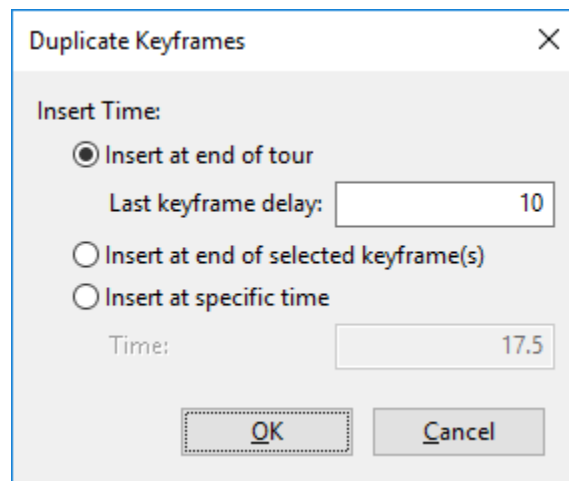

Figure 45. Duplicate Keyframes dialog
2. Right-click the keyframes and select **Duplicate**. This will open the **Duplicate Keyframes** dialog as shown in Figure 45.